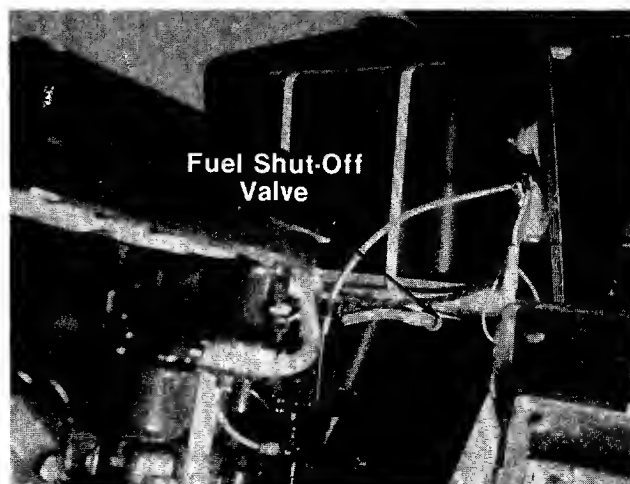

FIGURE 48.
2. Close the fuel shut-off valve located under the gasoline tank. See figure 48.